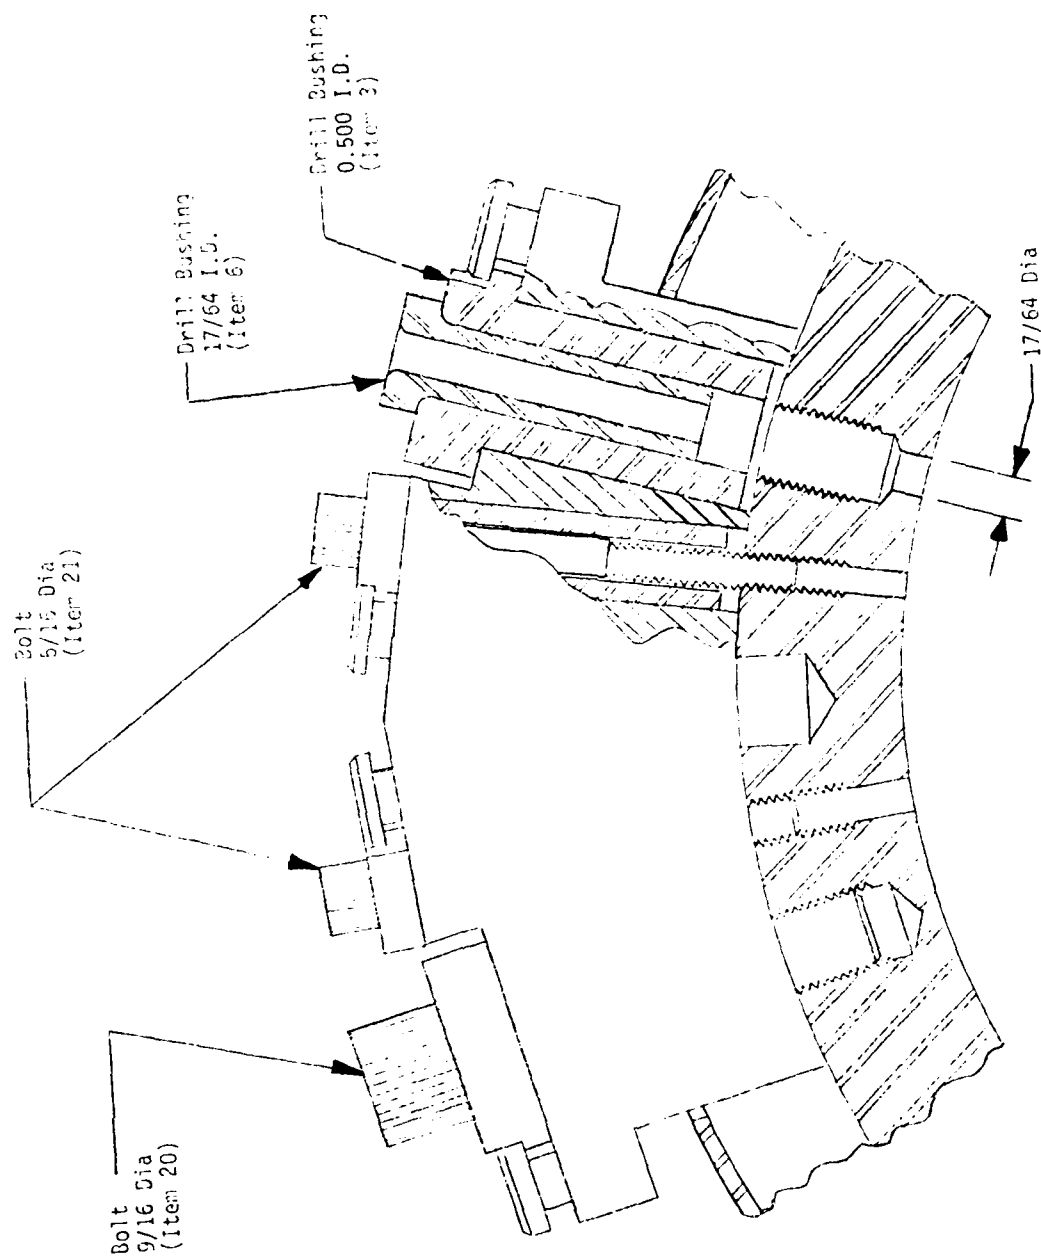

Figure 3. Keensert installation: Drill fixture in place with two bolts and pilot hole drilled in wing mounting hole.
19. Insert the $\frac{1}{2}$ -inch I.D. drill bushing (Item 3) into the 1-inch-diameter hole in the drill fixture and insert the 17/64-inch I.D. bushing (Item 6), as shown in Figure 3.
20. Use the 17/64-inch-diameter drill bit (Item 11) to drill through the missile center ring, as shown in Figure 3. Use vice grip pliers, as needed, to hold the 17/64-inch I.D. bushing and prevent it from rotating.